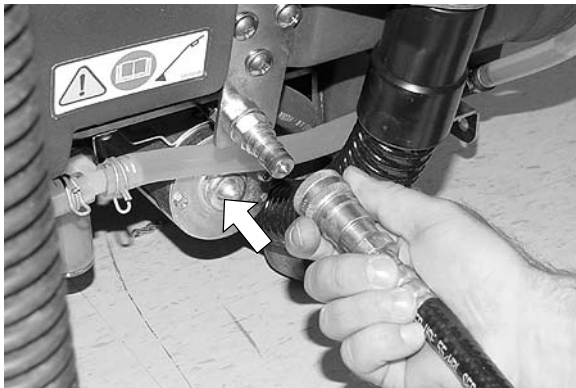

FIG. 11
2. Connect the accessory tool's solution hose to the coupler located at the rear of the machine (Figure 11).